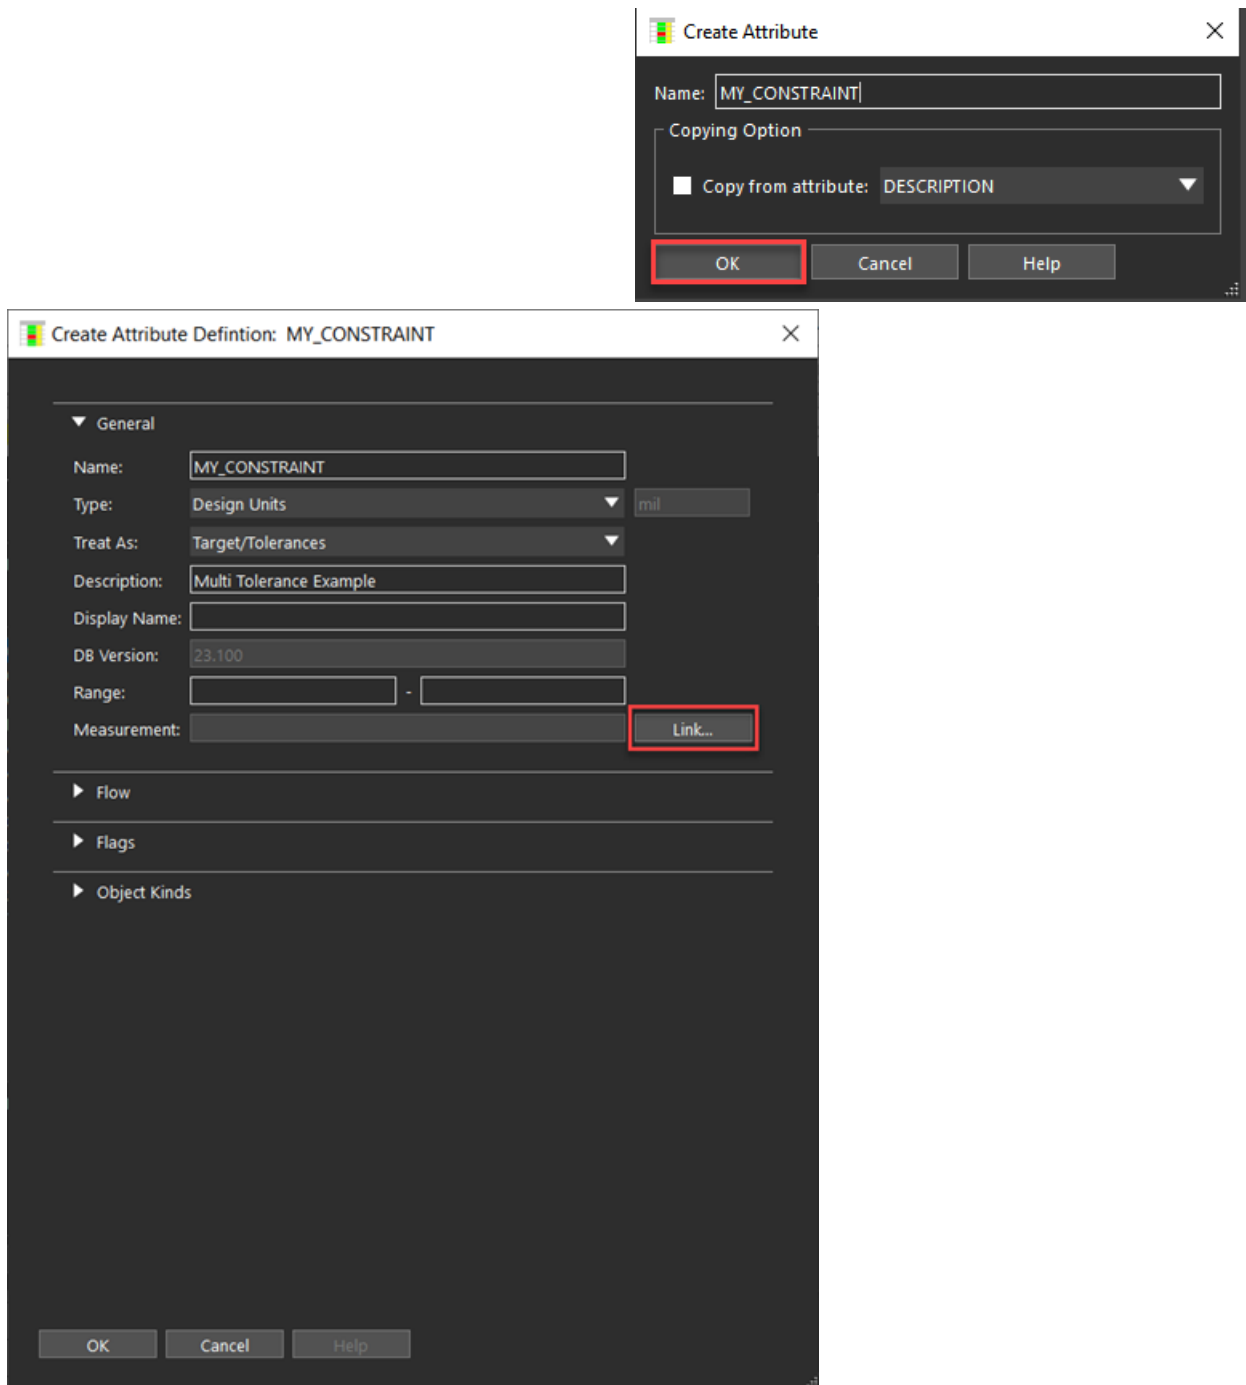

Figure 1-3 Create Attribute and Create Attribute Definition Dialog Box
8. Complete the *Create Attribute* and *Create Attribute Definition* dialog boxes as shown in Figure 1-3.
This launches the *Select or Create Measurement* dialog box. The choices listed are based on the *Type* that you chose in the *Create Attribute Definition* dialog box (Figure 1-3). At this point, there are no user-defined measurements, so the dialog box lists the supplied pre-defined measurements.